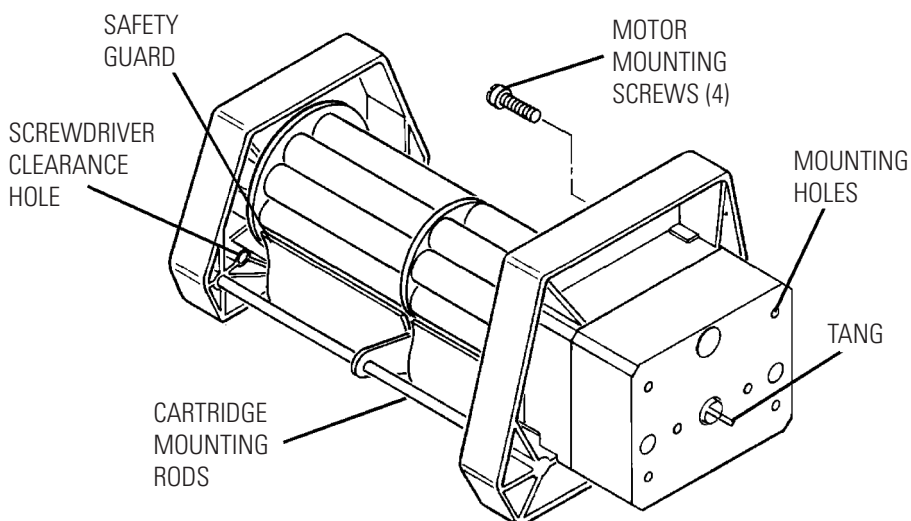

Figure 2-2. Pump Mounting
1. Connect the Pump to Drive by aligning the tang on Pump Head (see Figure 2-2) with the slot in the motor Drive shaft.